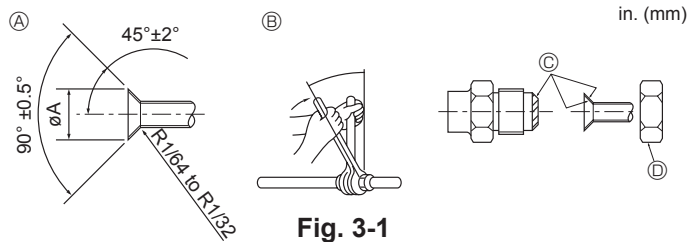

Fig. 3-1
3.2. Connecting pipes (Fig. 3-1)